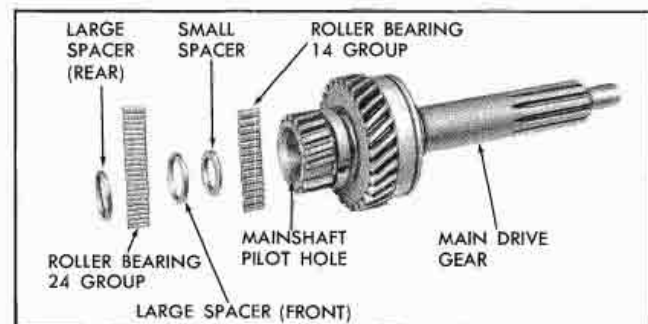

Fig. 7-51 Main Drive (Clutch) Gear Assembly
14. Apply cup grease to pilot hole in main drive (clutch) gear to retain pilot needle bearing rollers (Fig. 7-51).